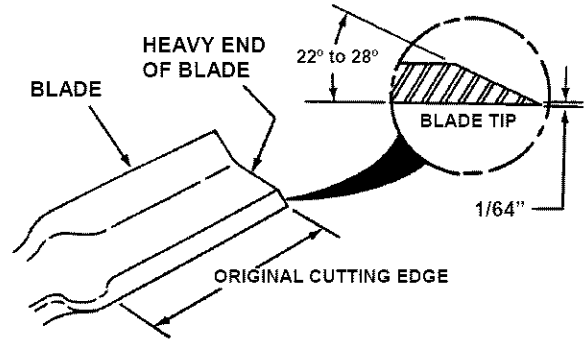

FIGURE 4.10
5. Should Blades be in acceptable condition, sharpen at 22 to 28 degrees. See Figure 4.10.